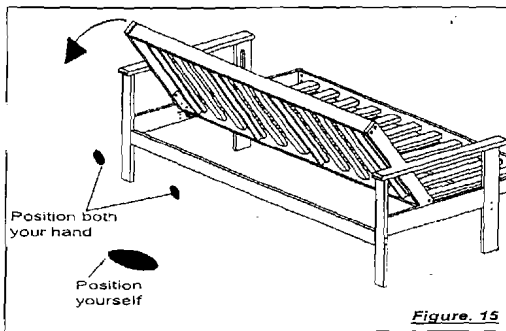

Figure 15
4. Pull down the seat deck gently and rest it on the front stretcher rail. ( figure 15 ).